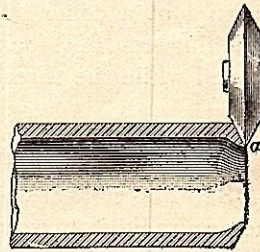

FIG. 17
**21.** The larger sizes of wrought-iron pipe should be cut off either in a lathe or by a cutting-off machine. Oil should be used freely in cutting pipe, and the wheels of the cutter should be kept sharp, since, if their edges are dull, they will not wedge apart the metal forming the pipe, but will force a large part of it inwards, thereby reducing the bore of the pipe at this point by forming a large burr, as shown at *a* in Fig. 17, which will reduce the flow of water through it. Even if the wheels are kept perfectly sharp, a burr will be formed, but it will be much smaller than in the case of dull wheels. On all good work the burr should be removed.